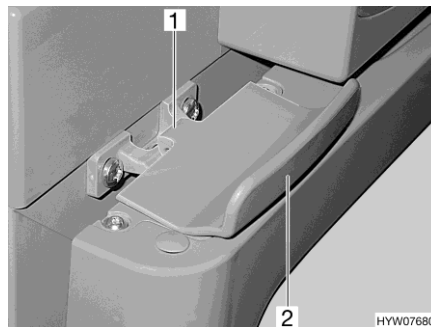

Fig. 150 Lock of refrigerator door, closed (Thetford)
- Open the refrigerator door using the handle (Fig. 150,2). The lock (Fig. 150,1) is automatically released.